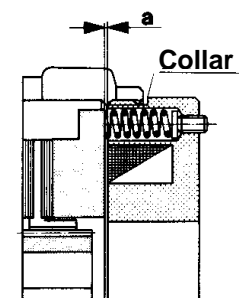
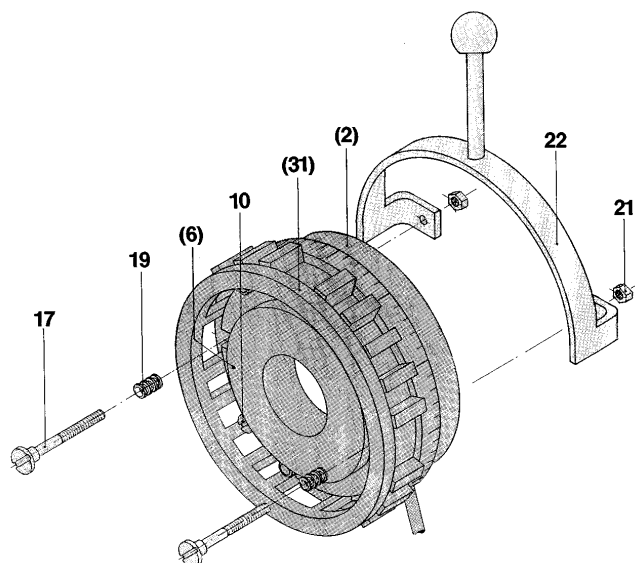

Fig. 2
Fig. 3
| 10 Shoulder screw (Fig. 3) | 59 Clamping screw |
- ❑ Screw on the brake using the fixing screws (13) included in delivery, and secure them with spring rings (28). Please observe the screw tightening tolerances, see Table 1.
Inspect air gap "a", Fig. 2. The nominal air gap "a" (see Table 2) must be fulfilled. The shoulder screws (10) Fig. 3 prevent the individual components from falling apart.
The working air gap "a" between the peak load armature (6) and the coil carrier (2) are installed manufacturer-side to the nominal dimension, (see Fig. 2). As the rotor (35) is worn, however, this air gap "a" is increased. By turning the thread distance ring (31), the nominal air gap can be reinstated. This readjustment must – at the latest – take place when the maximum permitted working air gap (see Table 2) is reached.
2. Loosen the fixing screws (13).
3. Loosen the clamping screws (59) and the lock washer (58).
4. Turn the thread distance ring (31) anti-clockwise (facing the brake rear side). Turn the distance ring (31) by one graduation of the engraved scale (which is equal to an air gap adjustment of 0.05 mm).
5. Tighten the fixing screws (13) and observe the tightening torques (see Table 1).
6. Tighten the clamping screw (59).
Adjustments can be repeated until the threaded distance ring (31) lies against the coil carrier (2) collar, Fig. 2. This component prevents unpermitted wear on the rotor (35). If no more adjustment is possible, the rotor (35) must be replaced. The thickness of the rotor in new condition and the thickness after maximum wear can be found in Table 2.